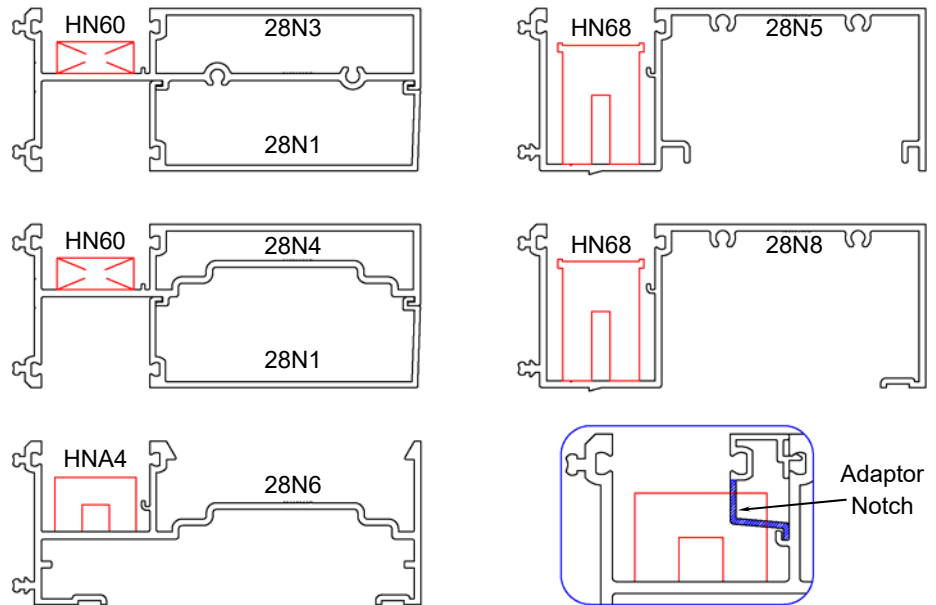

Figure 27
- Figure 27 shows setting blocks for 1" glazing.
- For sill profiles, 28N5, 28N8, and 28N6 when 1/4" or 1/2" glazing adaptors are required, field notch the glazing adaptor at the setting block locations. See figure 27 for notching needed.
- See figure 27 to identify the setting block required for your condition.